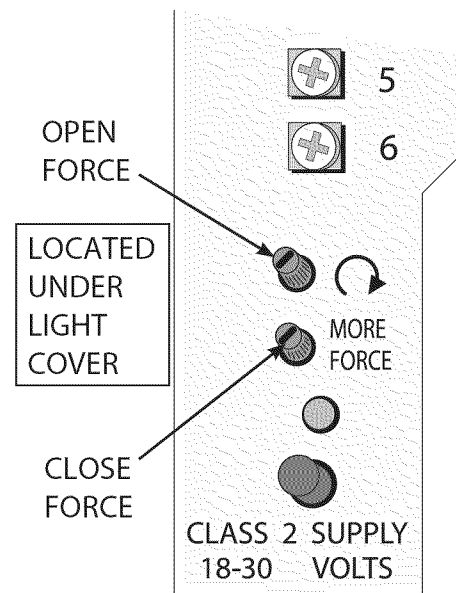

Figure 9 Making Force Adjustments (Located Lower Right Corner).
- On front panel of Power Head find adjusting screw marked "CLOSE" (**Figure 9**).
- On front panel of Power Head find adjusting screw marked "OPEN" (**Figure 9**).
- If door does not reverse, decrease Close Force until door reverses (**Figure 9**).